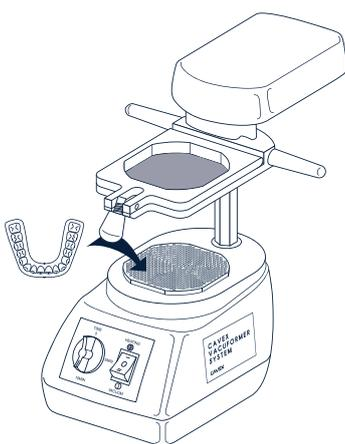

Fig. 4
4. Place the dental arch model* on the vacuum plate (Fig. 4).